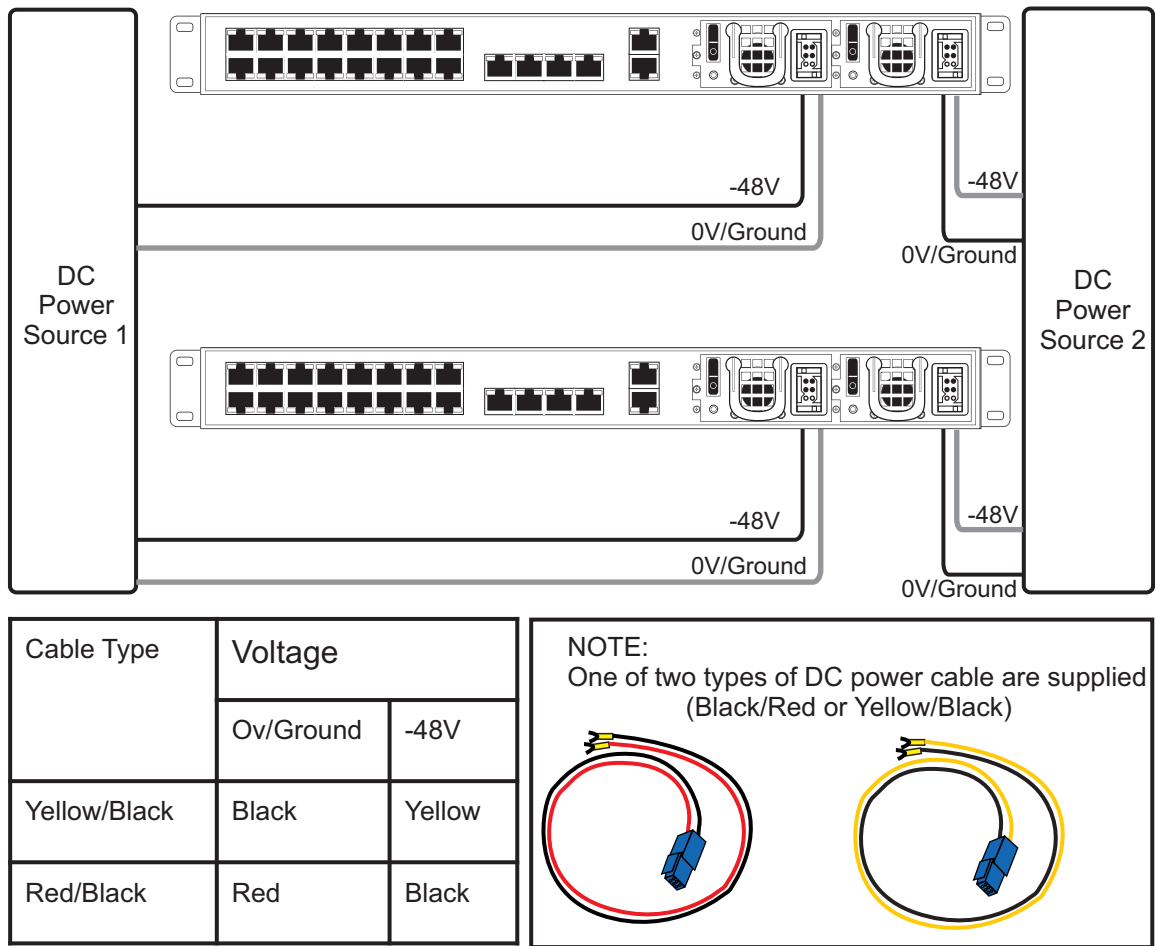

Figure 5.3 7800-TMS DC wiring diagram
1. Connect the first DC power connector of each 7800-TMS to DC power source one. See figure 5.3 on page 43.